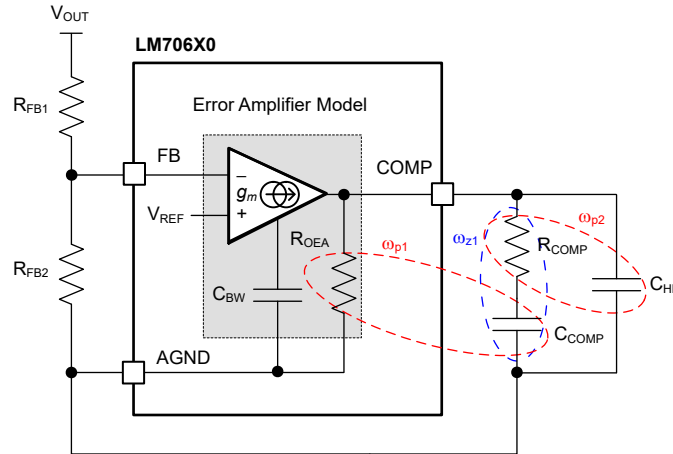

Figure 7-3. Error Amplifier and Compensation Network
A Type-II compensator using a transconductance error amplifier (EA) is shown in Figure 7-3. The dominant pole of the EA open-loop gain is set by the EA output resistance, R_{OEA} , and effective bandwidth-limiting capacitance, C_{BW} as shown by Equation 23.
The EA compensation components create a pole close to the origin, a zero, and a high-frequency pole. Typically, $R_{COMP} \ll R_{O-EA}$ and $C_{COMP} \gg C_{BW}$ and C_{HF} , so the approximations are valid. Figure 7-3 circles the poles in red and the zero in blue.